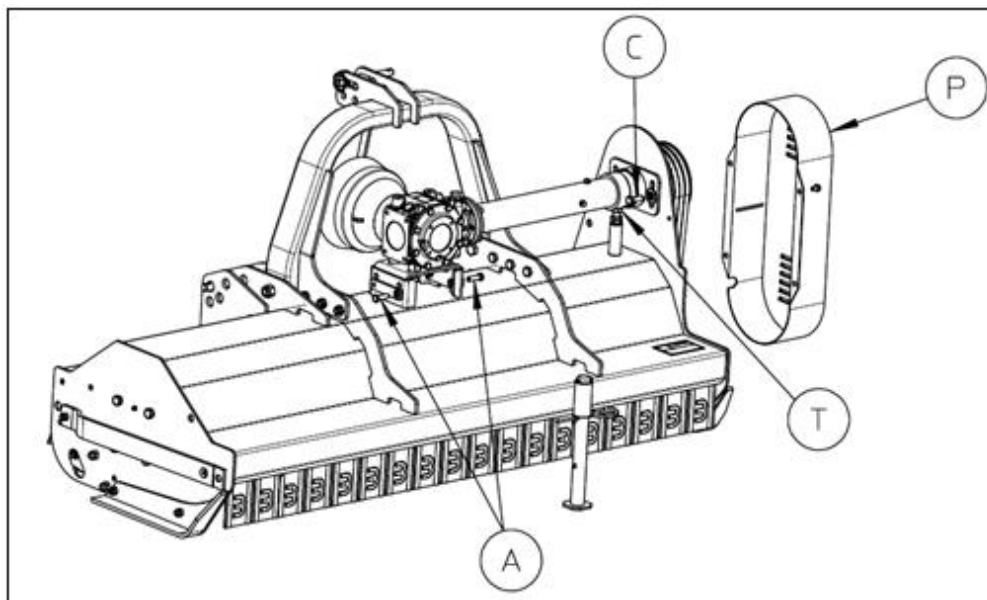

Figure 25
1. Remove the transmission covering casing P (figure 25);